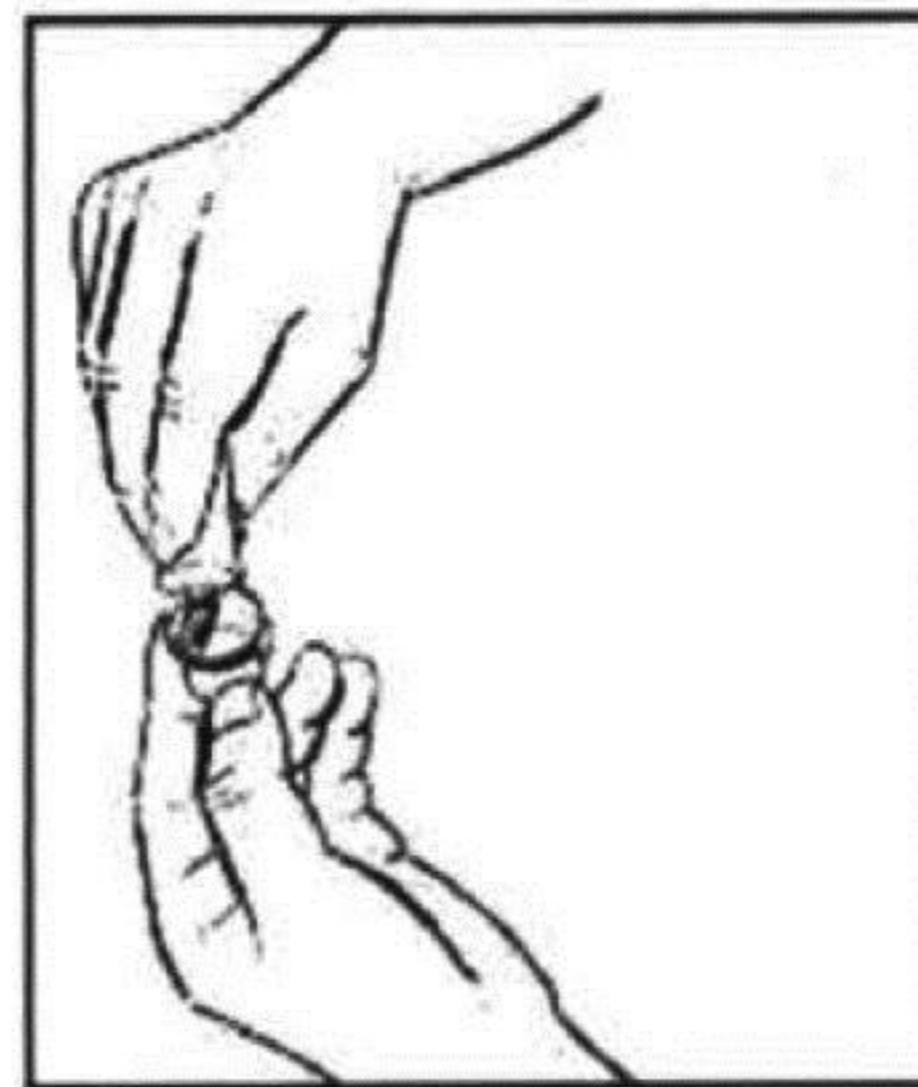

fig.34
- Spread Vaseline on the bell shaped seal internal surface before reassembling it (fig.34).